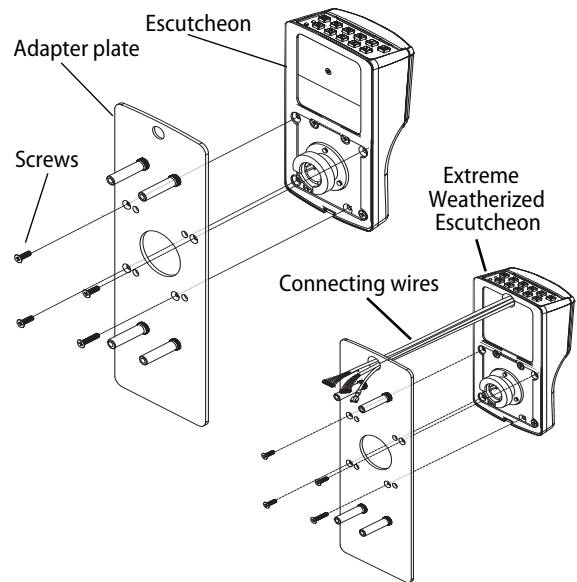

Figure 9 Installing the adapter plate
- 1 Line up the screws as shown in Figure 9.